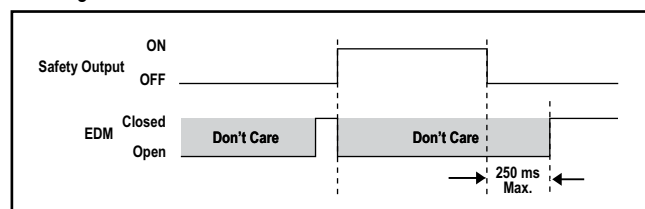

Figure 3-16. One-channel EDM status, with respect to safety output
**One-Channel Monitoring:** This is a series connection of closed monitor contacts that are forced-guided (mechanically linked) from each device controlled by the EZ-SCREEN. The monitor contacts must be closed before the EZ-SCREEN can be reset and the OSSDs can turn ON. After a reset is executed and the safety outputs (OSSDs) turn ON, the status of the monitor contacts are no longer monitored and may change state. However, the monitor contacts must be closed within 250 milliseconds of the OSSD outputs going from ON to OFF. See Figure 3-16.
Figure 3-16 illustrates an optional hookup that provides sensor interchangeability (or "swapability") – the ability to install either sensor at either QD connection. To hook up an 8-pin QD emitter, use only three conductors (Brown = +24V dc, Blue = 0V dc, Green/Yellow = GND). Connect the remaining wires in a parallel connection (color-for-color) to the receiver cable.